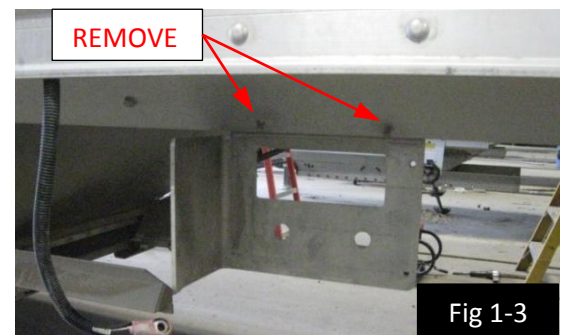

Fig 1-3
- Remove the existing control box bracket by grinding or air chiseling the huck bolts which are connecting the bracket to the bottom rail of the trailer. Caution not to grind or gouge bottom rail. (See Fig 1-3)